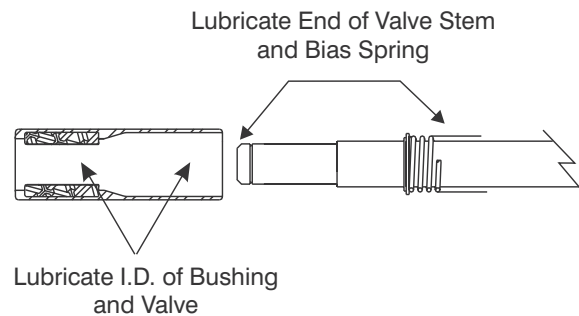

Figure 9-15. Lubricate the Valve Stem and the Valve Bushing.
1. Lubricate the internal bore of the Valve Bushing (6), the non-threaded end of the Valve Stem (11) and the first two inches of Bias Spring as shown in Figure 9-15.